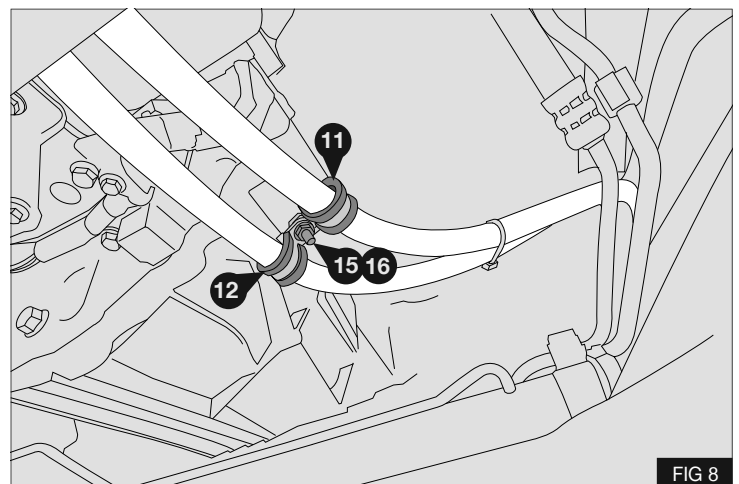

FIG 8
2. Secure the hoses to support plate (13) using P clips (11), (12) with M6 x 25 bolt (15) and Nut (16) - Fig 8